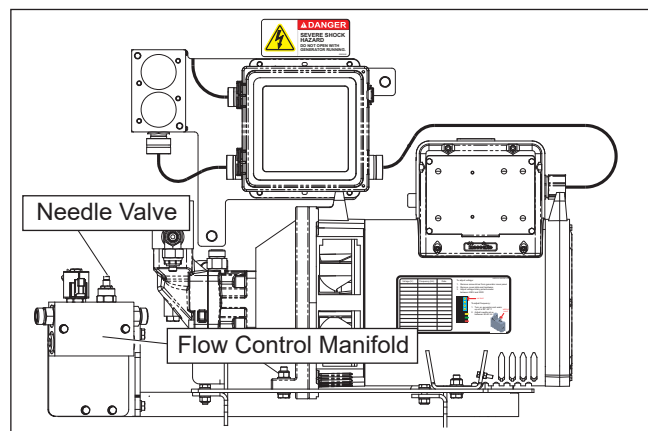

Figure 11.4 – AC 20 kW Generator
3. Adjust the needle valve on the flow control manifold (refer to Figure 11.4) to 62 Hz to 63 Hz.